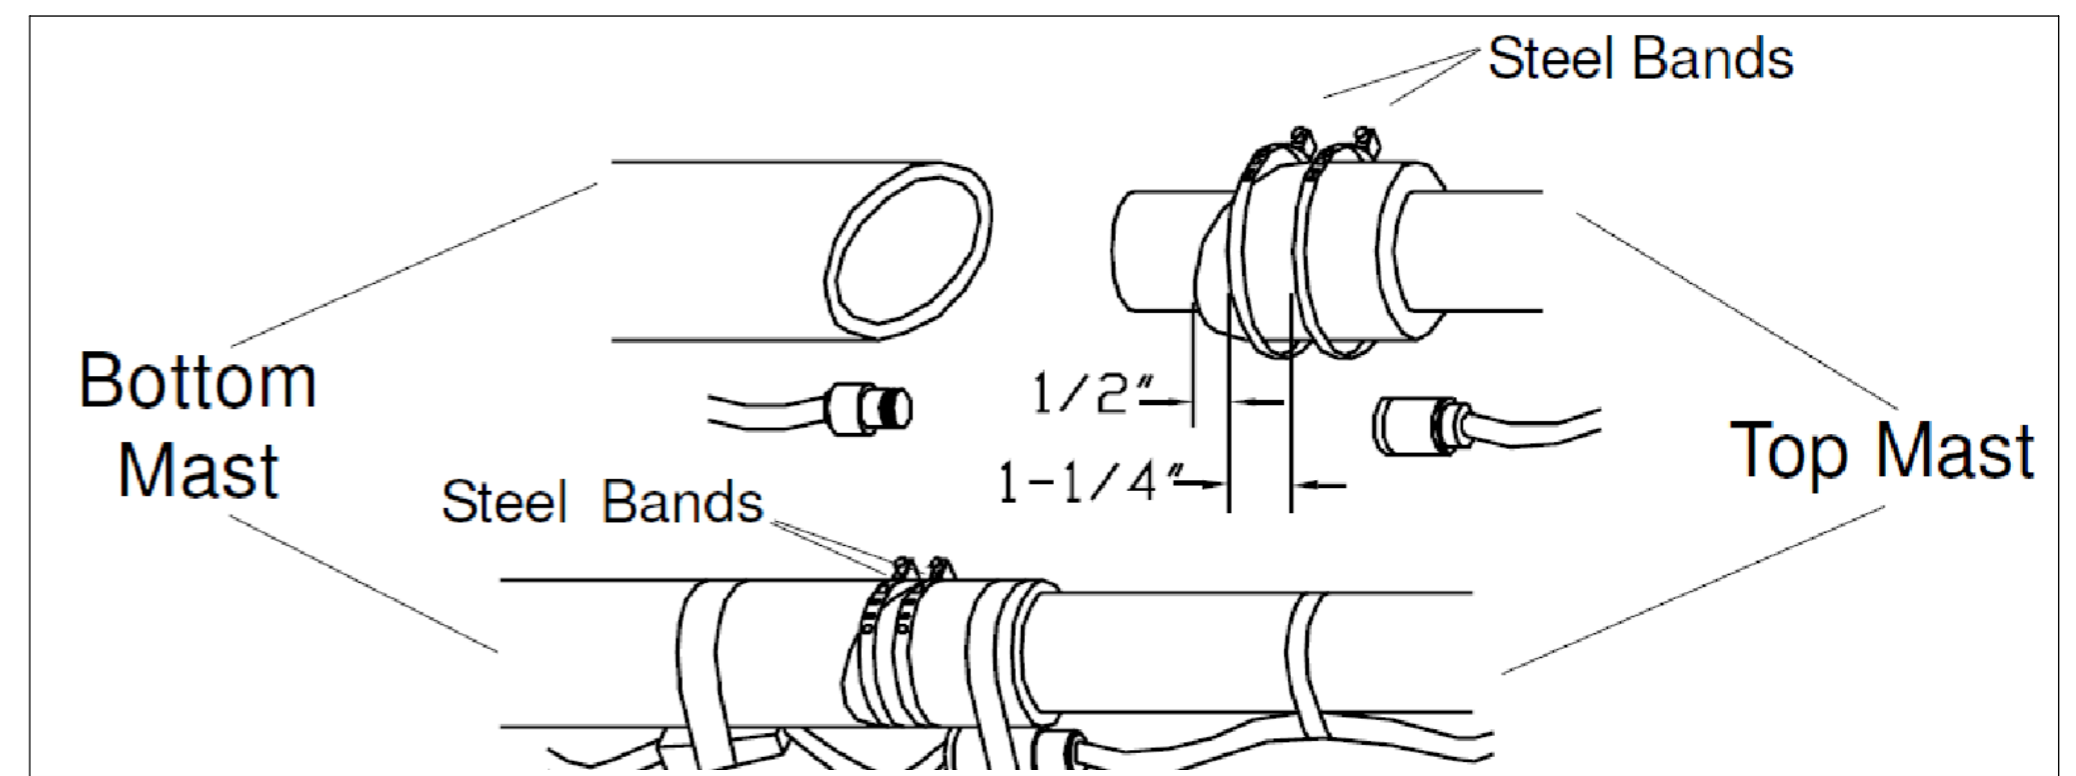

Figure 5. Joining the Mast Sections
4. Slip the mast sections together and position the bands as shown in Figure 5. Tighten the bands securely; the recommended tightening torque is 45-60 in-lbs. Then, join the connectors, making the connections snug, but do not apply heavy force with pliers. Carefully wrap Vapor-Wrap® around the connection to seal out moisture problems. Secure the connectors to the mast with several wraps of tape (see Figure 5).